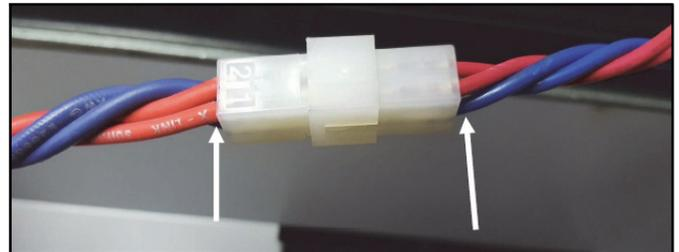

Figure 3
7. Remove old connector by trimming blue and red wires close to the end of each end of the connector (see figure 3).